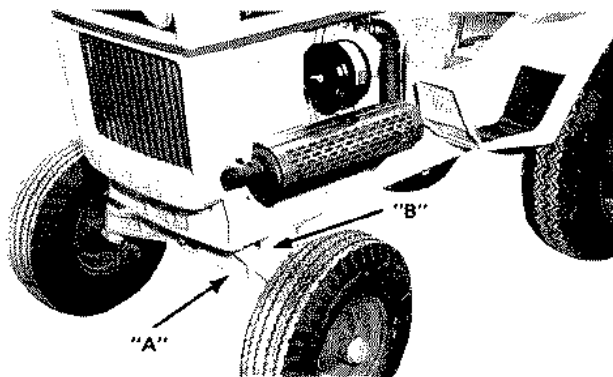

Figure 16
If the clearance between the Front axle assembly "A" and the Stop assemblies "B", Figure 16, is 1/16 inch or more the stops must be adjusted.
- C. Secure capscrews "A", Figure 16.